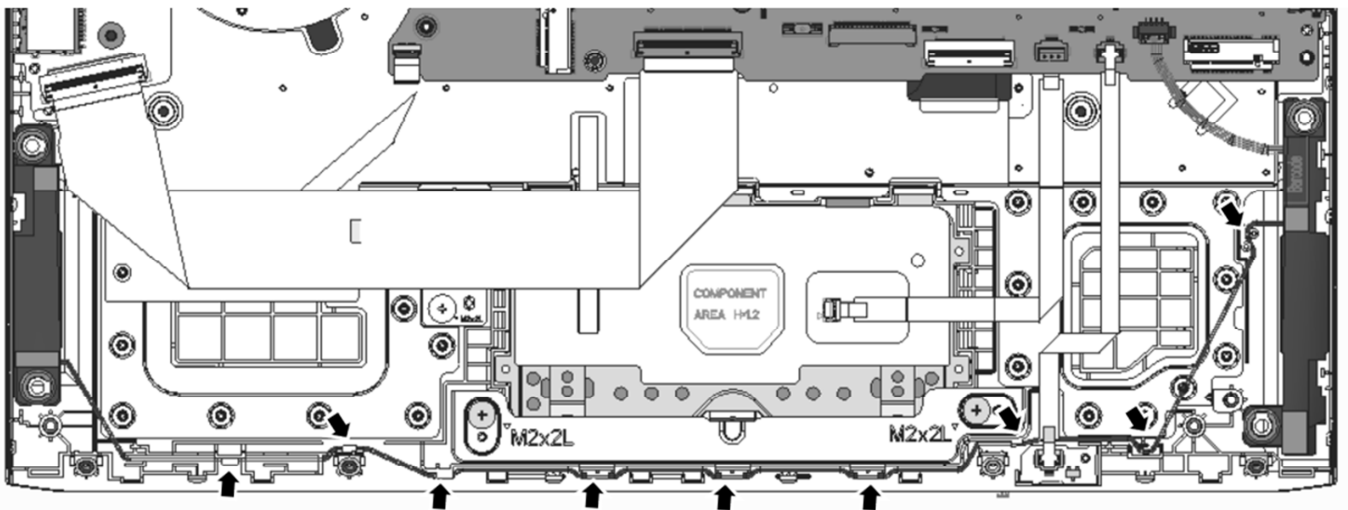

Figure 4-9 Speaker Cable routing channels on upper
2. Route and secure the speaker cable in the routing channels as shown in Figure 4-9.